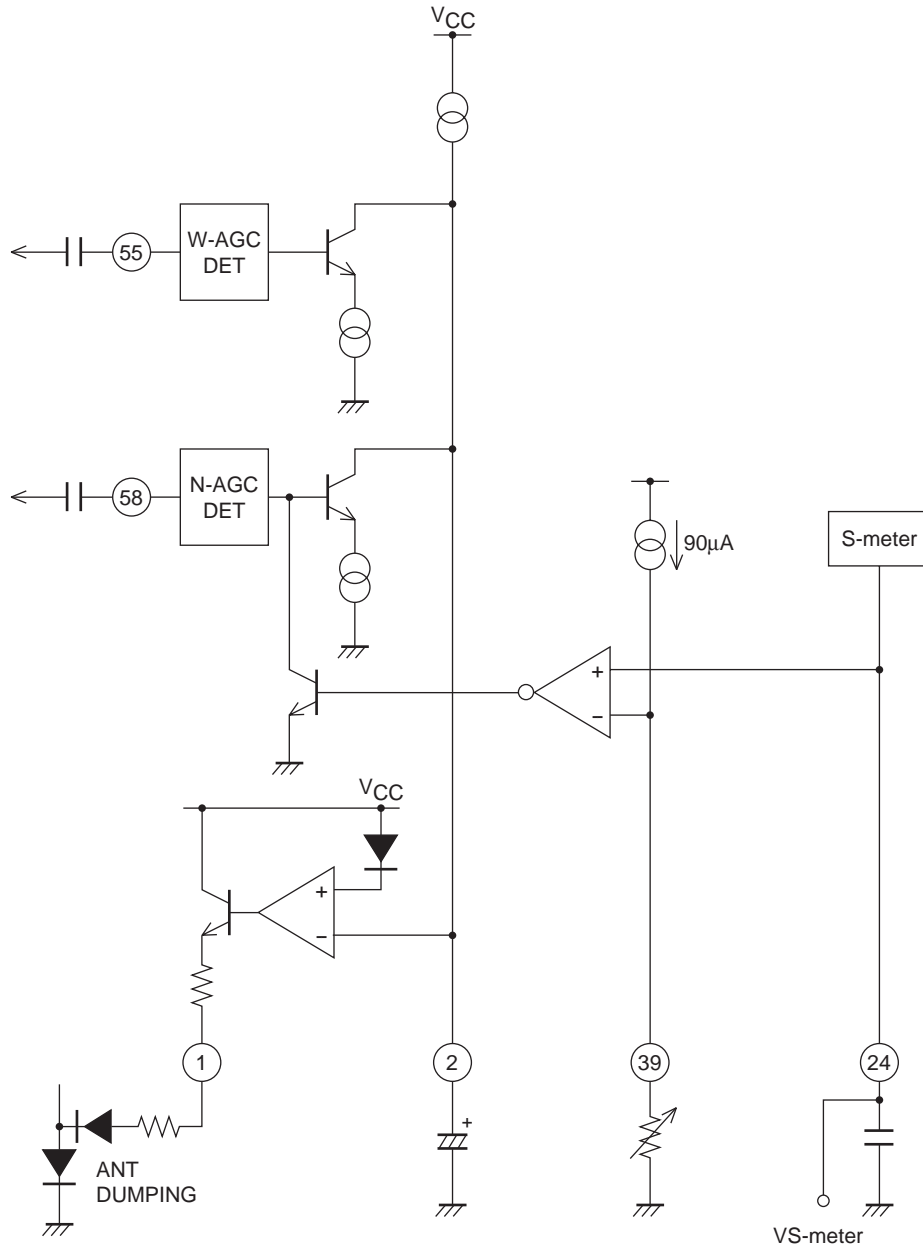

Fig. 8
- Figure 8 on the next page shows the actual operation of the circuit.